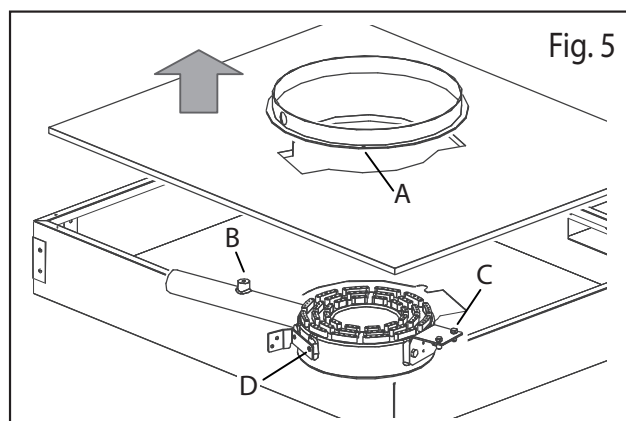

Fig. 5
**Solid top 980:** Loosen the heat conveyor retaining screws (Fig. 5/A)
- Remove the insulation and unscrew the burner from the combustion chamber (Fig. 5/B+C)
- Unscrew the supports (Fig. 5/C+D) and screw them to the new burner again